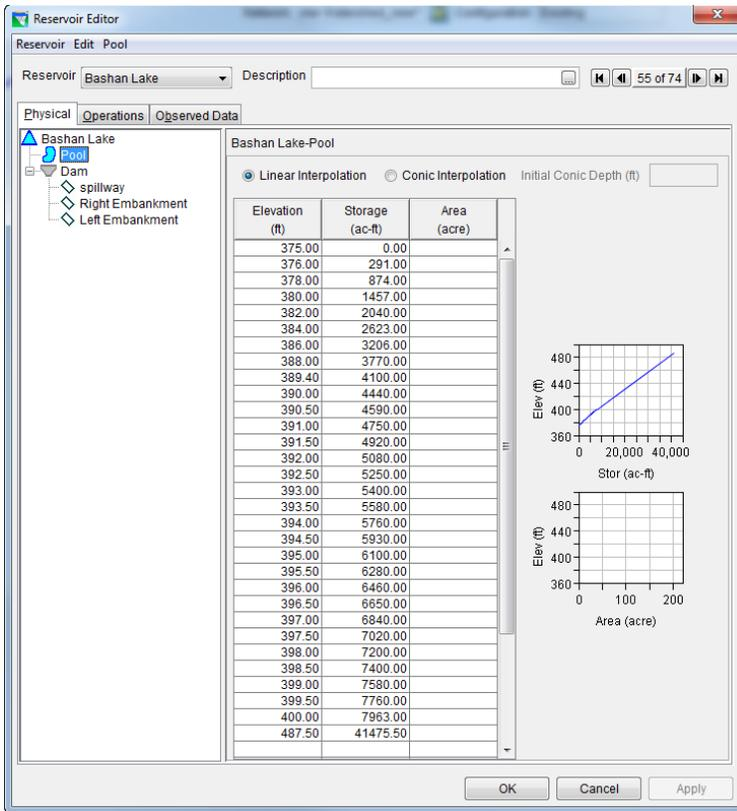
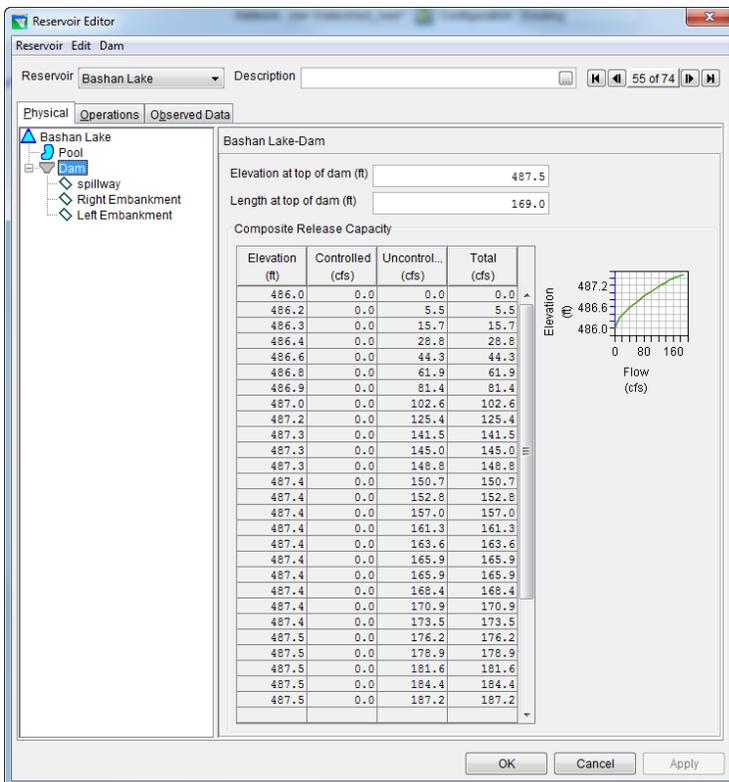

Figure 3: Reservoir Editor -- Physical Tab -- Pool
Figure 4: Reservoir Editor -- Physical Tab -- Dam
The physical characteristics of the reservoir are separated between the Pool and the Dam in the HEC-ResSim model. The elevation-storage-area defines the pool as shown in Figure 35. The dam consists of three different outlets: (1) an uncontrolled spillway, (2) an uncontrolled right embankment, and (3) an uncontrolled left embankment as shown in Figure 4. These three uncontrolled were modeled as weirs, with data shown in Table 16.
Zones are used to define the operational storage in the reservoir to determine the reservoir release through analysis of the rules contained within each zone. Figure 4 shows the definition of Bashan’s “Guide Curve” operational zones, which consist of the zones Flood Control (487.5 ft), Conservation (486 ft), and Inactive (400 ft). The zone elevations were based off the top of the elevation-storage curve and the spillway outlet elevation.
The physical characteristics of the reservoir are separated between the Pool and the Dam in the HEC-ResSim model. The elevation-storage-area defines the pool as shown in Figure 37. The dam consists of three types of outlets: (1) controlled tainter gate, (2) controlled 30 inch pipe, and (3) power plant as shown in Figure 4.